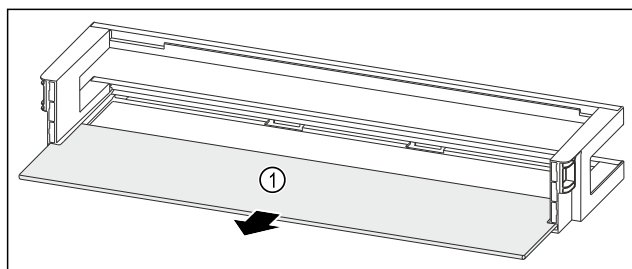

Fig. 90 Door rack with shelf
- Remove the shelf Fig. 90 (1).